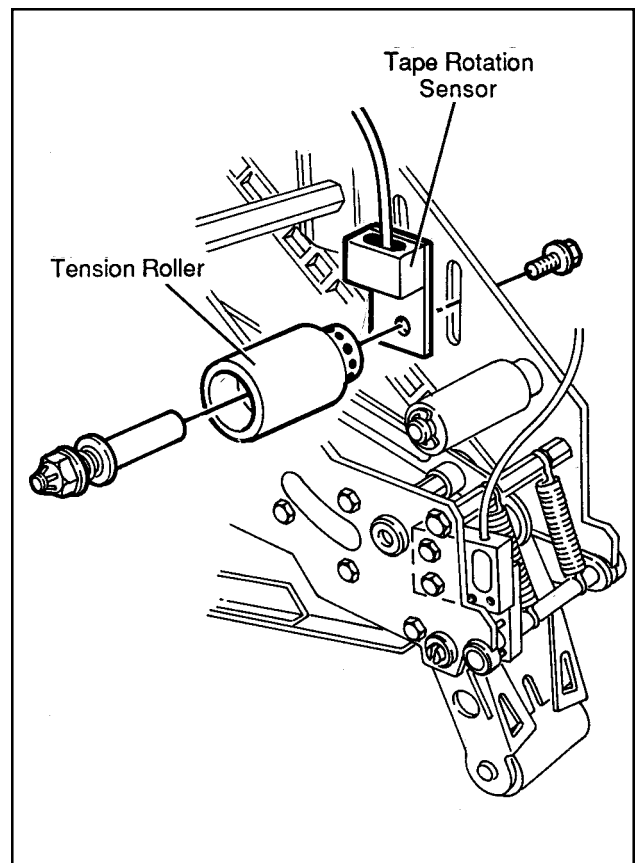

Figure 2-11
3. Install the tape rotation sensor between the tension roller shaft and the taping head side plate as shown in Figure 2-11. **Note – Tape rotation sensor REPLACES large plain washer between shaft and taping head side plate. DO NOT USE WASHER.** Replace and tighten the M6 x 10 hex head cap-screw and M6 plain washer that holds the tension roller shaft in position. **Be sure sensor cable is pointed in same direction as box presence sensor.**